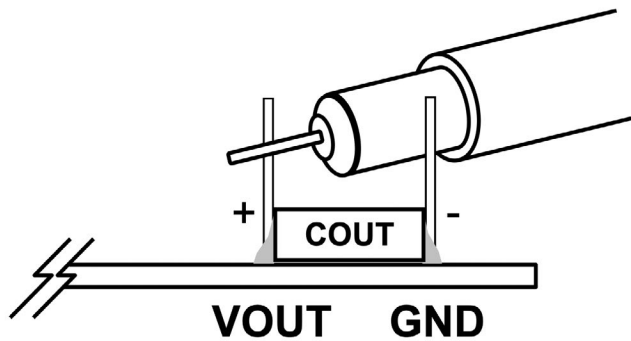

Figure 3. Measuring Output Voltage Ripple
2. When measuring the output or input voltage ripple, do not use the long ground lead on the oscilloscope probe. See Figure 3 for the proper scope probe technique. Short, stiff leads need to be soldered to the (+) and (-) terminals of an output capacitor. The probe’s ground ring needs to touch the (-) lead and the probe tip needs to touch the (+) lead.